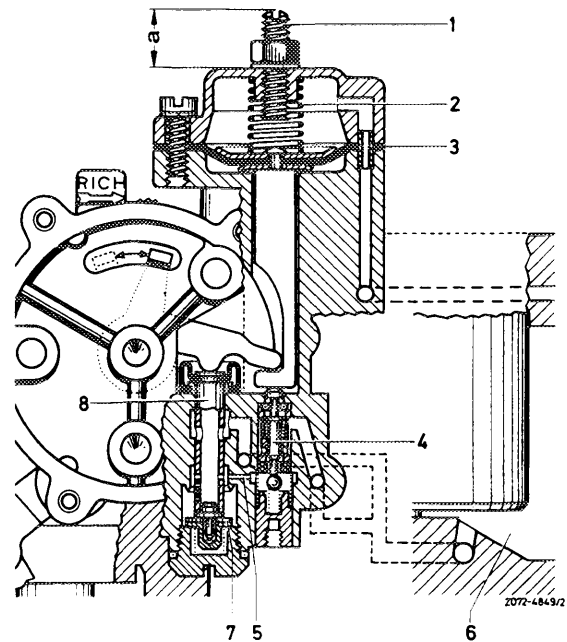

Fig. 07-6/20
If emission value is still too high in spite of increasing cold starting speed, make adjustment by means of adjusting screw (1) (Fig. 07-6/20).